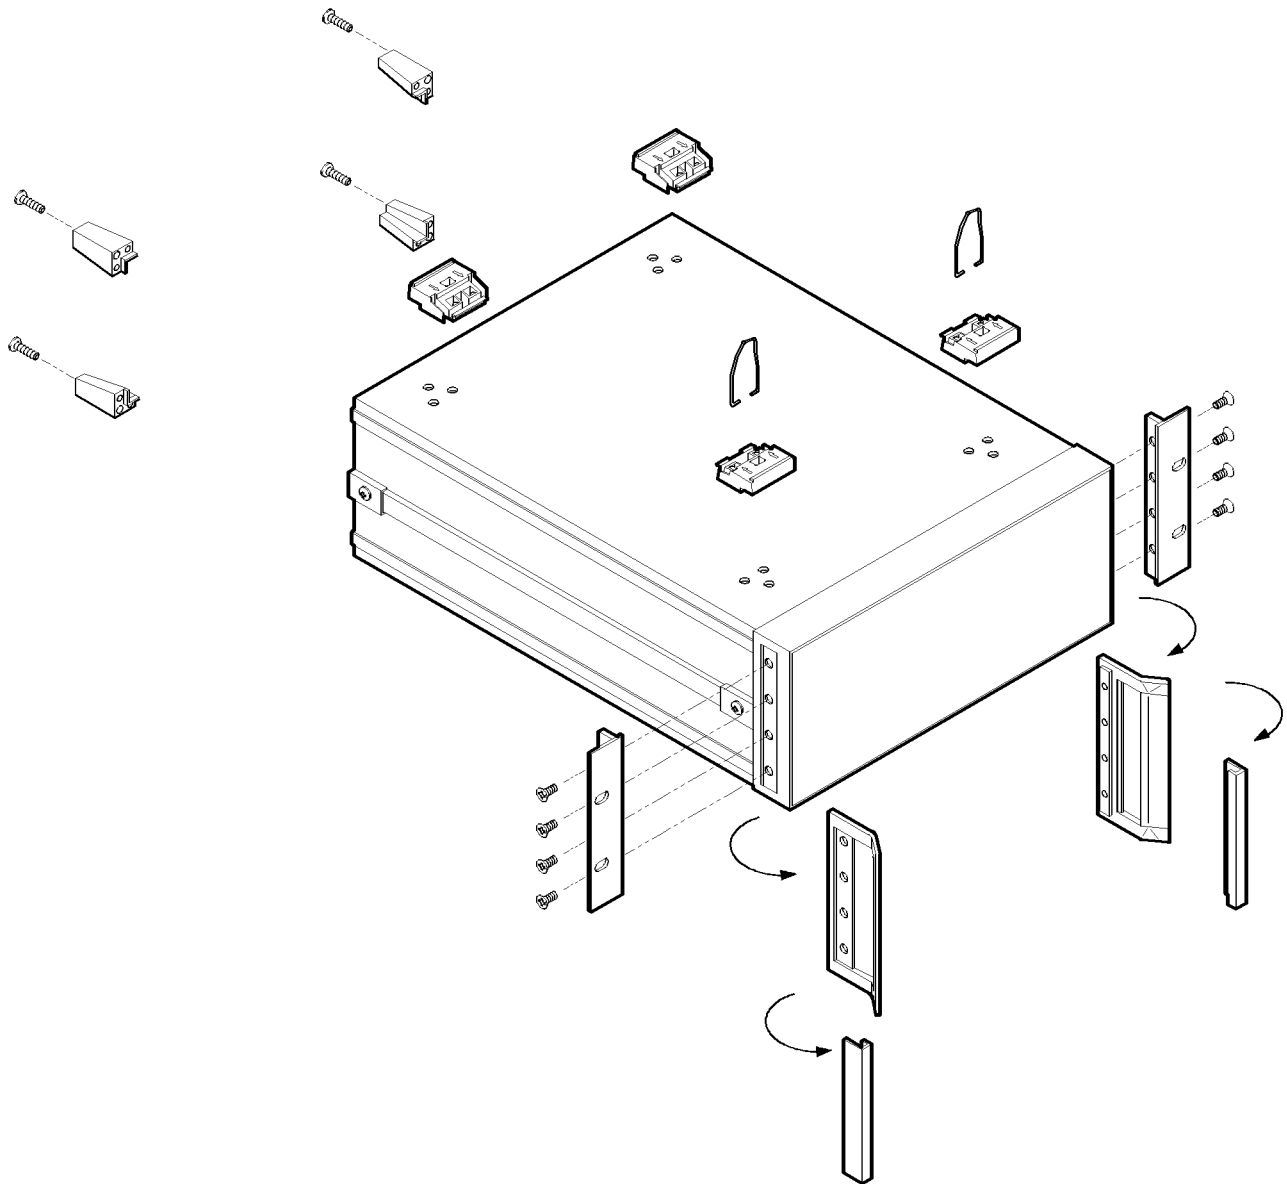

Figure 3-5. Rack Mount Flanges for Synthesizers with Handles Removed
1. Refer to Figure 3-5. Remove handle trim strips.